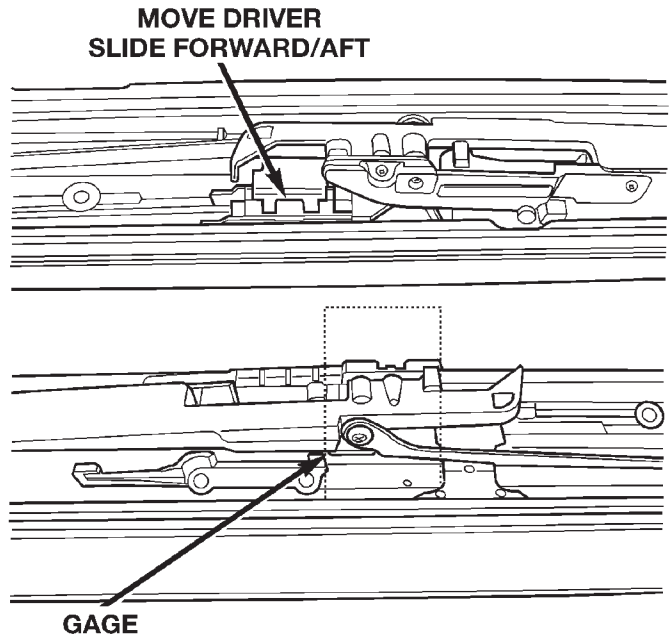

Fig. 6 Sunroof Drive Cable Timing
(1) If the glass panel was not in the fully closed position, when the motor was removed, the sunroof glass panel needs to be timed, before the new motor is installed.
(2) Remove sunroof glass panel.
(3) Set gage into the track near the rear of the opening between the driver slide and the bracket (Fig. 6).
(4) Move the driver slide forward or aft to get proper setting.
(5) Repeat the operation on the other side.
(6) Install drive motor.